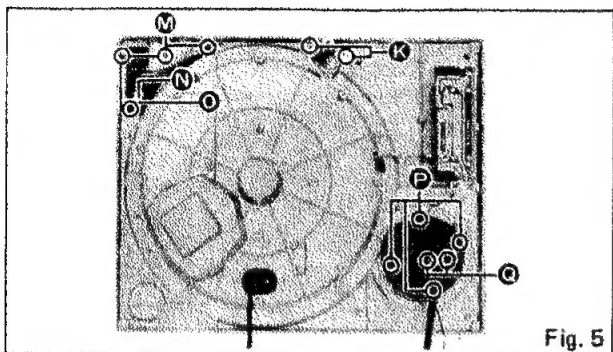

Fig. 5
11. Remove 2 screws **K** of the stylus-illuminator lamp ass'y as shown in Fig. 5.
13. Remove 4 screws **M** as shown in Fig. 5.
14. Remove 1 circlip **N** and switch cam **O** as shown in Fig. 5.
16. Remove 4 screws **P** of the arm base cover as shown in Fig. 5.
17. Remove 2 screws **Q** of the phono cord clamber as shown in Fig. 5.